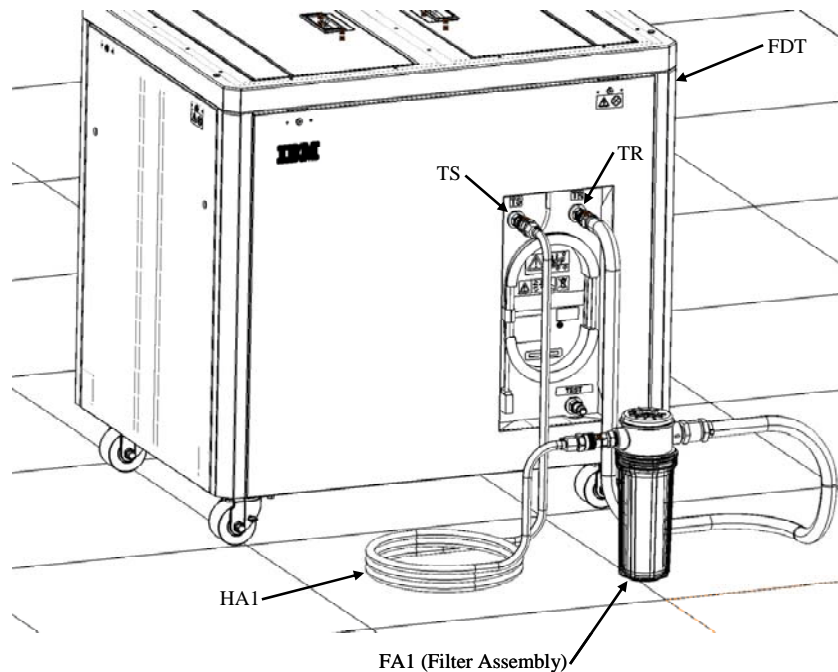

Figure 10: Filter assembly and HA1 connected to FDT
18. Figure 10 shows the filter assembly FA1 connected to the FDT using hose assembly HA1. Connect one end of HA1 to the TS plug on the FDT and connect the other end of HA1 to the plug on the side of the filter housing on FA1. Connect the socket on the end of the hose on FA1 to the TR plug on the FDT.